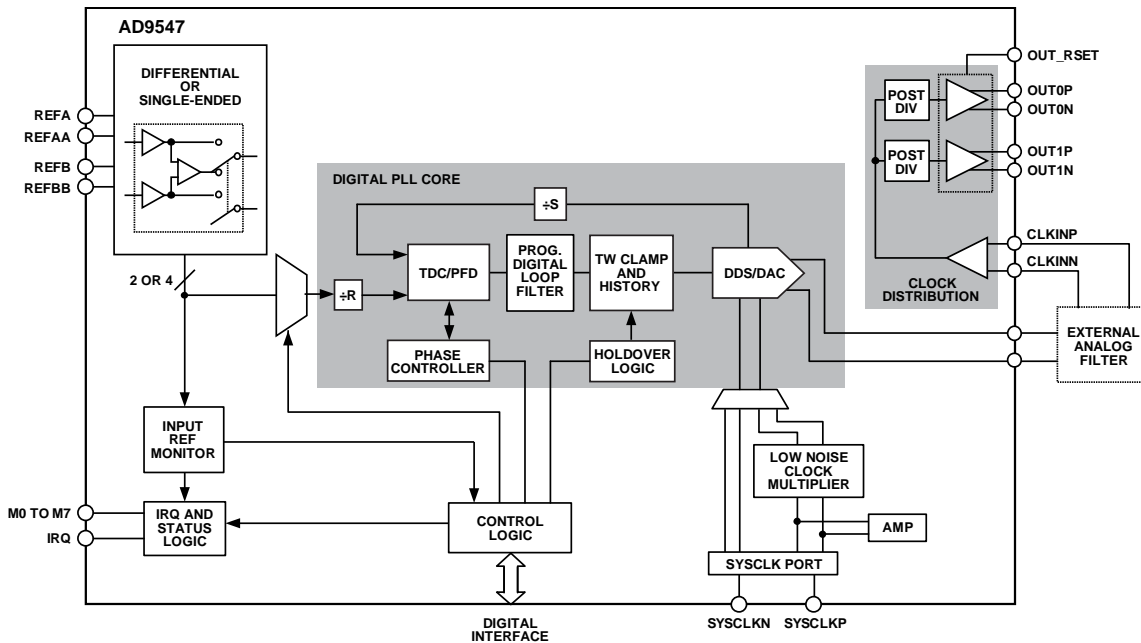

Figure 33. Detailed Block Diagram
The device offers manual and automatic reference switchover capability if the active reference is degraded or fails completely. A direct digital synthesizer (DDS) and integrated DAC constitute a digitally controlled oscillator (DCO). The DCO output is a sinusoidal signal (450 MHz maximum) at a frequency that is determined by the active reference frequency and the programmed values of the reference prescaler (R) and feedback divider (S). Although not explicitly shown in Figure 33, the S divider has both an integer and fractional component, which is similar to a fractional-N synthesizer.